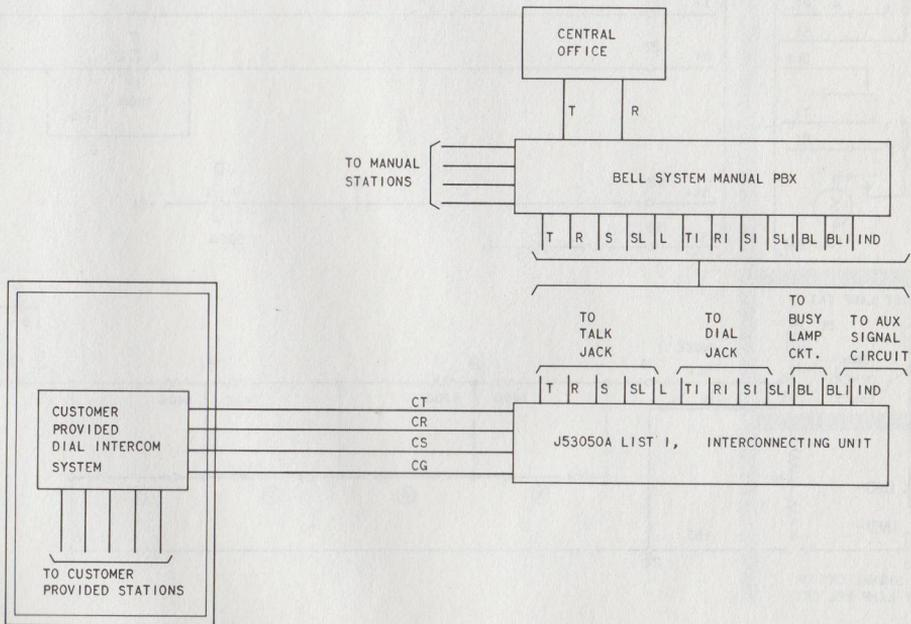

Fig. 3—Block Diagram, Typical Voice Connecting Arrangement CDB
6.01 A block diagram of a typical Voice Connecting Arrangement CDB installation is shown in Fig. 3.